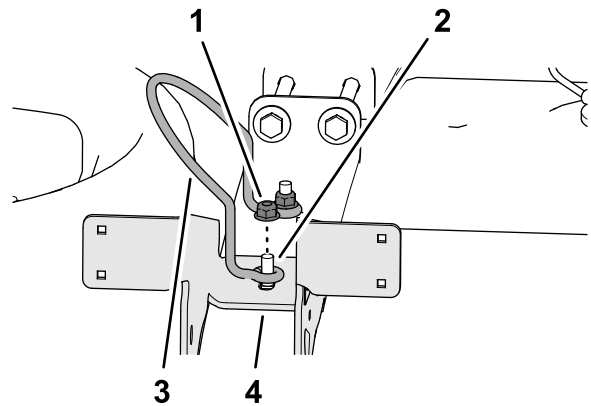

Figure 14
4. Assemble the tank-lid stop and 2 flange locknut that you removed in step 1 onto the 2 upper carriage bolts (Figure 14).